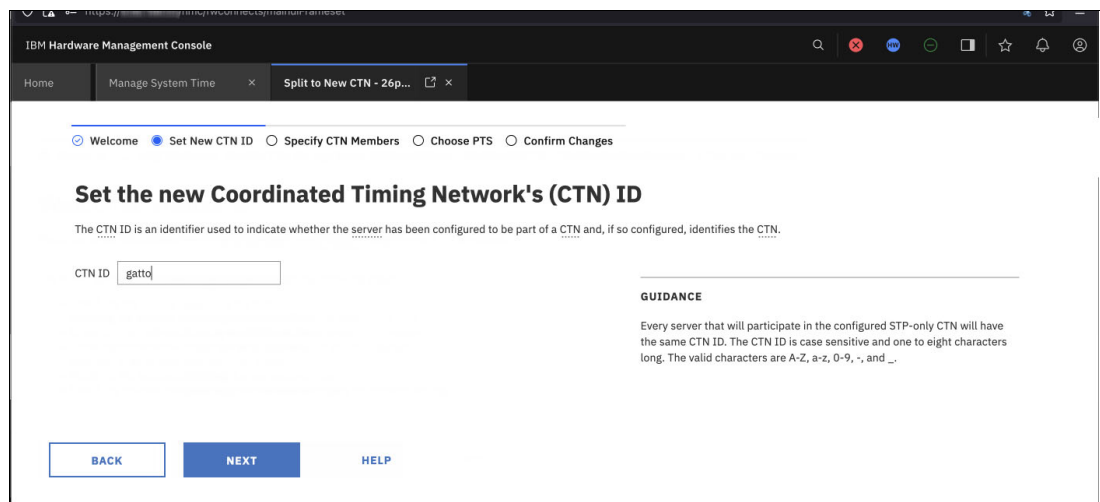

Figure 5-9 Set the new CTN ID
4. Enter the new CTN ID, as shown in Figure 5-9.